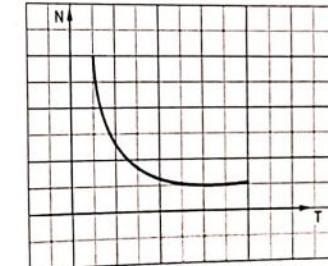

Fig. 8.9.3 N Vs T for series motor
- The speed-torque characteristics of a series motor is shown in the Fig. 8.9.3